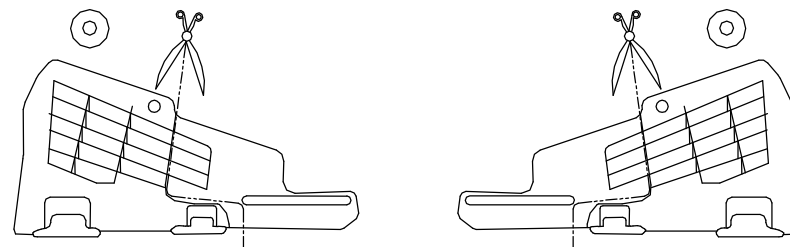

Fig. 2
3. Disassemble plastic covers and cut out fragments according to figure 2.
4. Put side brackets (pos. 4 and 5) to chassis members and fix loosely through holes A and B (**Espace**) or A and C (**Grand Espace**) using bolts M10x110mm (pos. 10) and M12x70mm (pos. 8). Use distance sleeves pos. 6 and 7 and big washers pos. 15 and 16 as shown on the figure.
5. Between installed side brackets put main bar of the towbar (pos. 1) and fix it using bolts M12x40mm (pos. 9).
7. Fix the socket plate (pos. 3) as shown on the drawing.